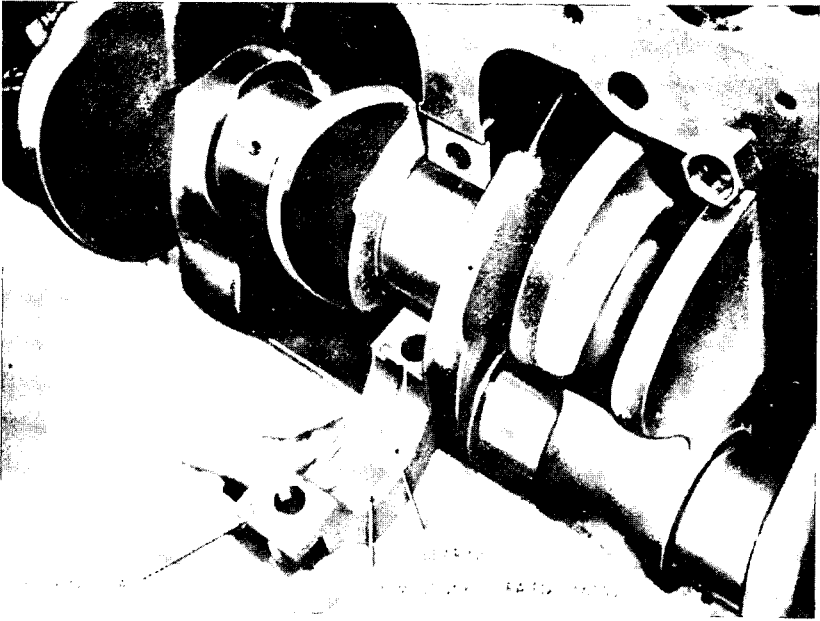

Figure 56. Checking main bearing clearance.
e. Checking Main Bearing Clearance (fig. 56). Refer to repair and rebuild standards (par. 63) for desired main bearing clearance